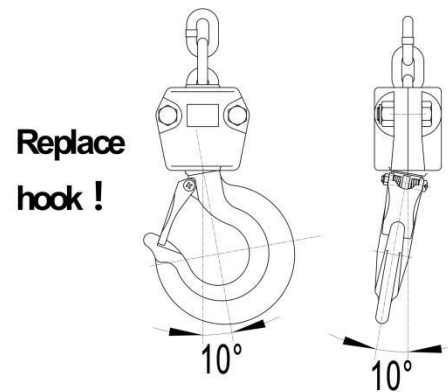

Figure 3
2. The vertical angle at the neck of the hook reaches 10° (see Figure 3).